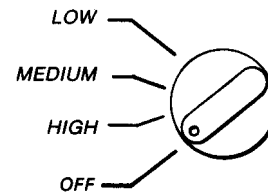

Figure 3
- B. Turn unit on by turning the On/Off switch to the desired blower speed. (Low, Medium or High) (See Figure 3). Until your unit is adequately broken in, blower motor speed should be set on High for one minute initially before switching to desired setting. Your electronic air cleaner is designed for continuous operation . . . **peak efficiency is obtained if the air cleaner remains on constantly.**